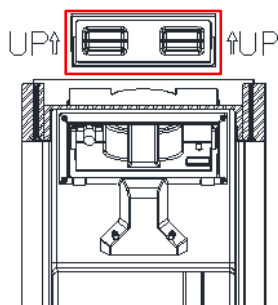

Fig. 1
2. Open the door of the unit and use both thumbs to open the transparent window and slide it upwards (Fig. 1).